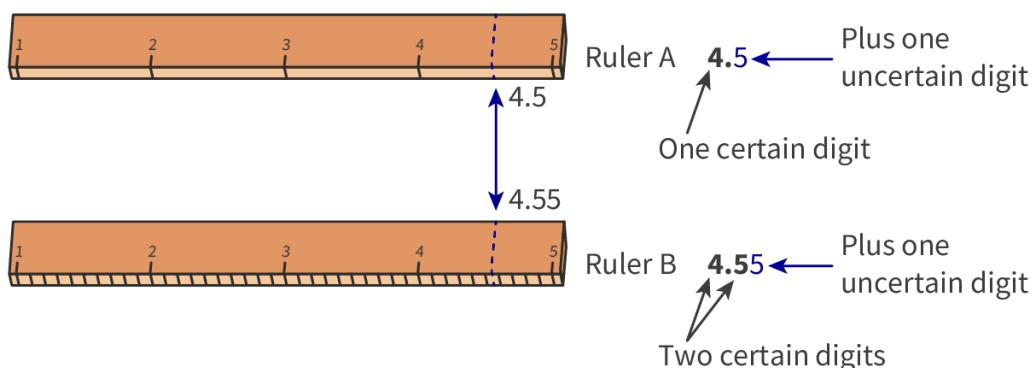

Figure 1. More hatch marks on an instrument allows for greater precision and more significant figures in the measurement.
Consider the rulers in **Figure 1**. One ruler has markings at each cm, while the other contains markings at each mm. The same object can be measured with both rulers with the same accuracy, but with different precision. When there are more hatch marks, the precision increases and so does the number of significant figures, which will then be helpful when performing calculations with measured values. Note, if the hatch marks are very close together, your final, uncertain digit will likely be a 0 (if the object appears to be on the hatch mark itself) or a 5 (if the object appears to be between two hatch marks).
🔗 More information for figure 1
- (/study/app/aa-hl/sid-423-cid-762593/c) In addition to the measurement, you must also record the uncertainty, which is then used to assign a quantity of error to your measurement. Uncertainty is an unavoidable error in the measurement that is due to your ability to correctly estimate the last digit in your measurement. In general, the uncertainty for analogue equipment is one-half of the value between hatch marks. In **Figure 1**, the uncertainty would be 0.5 cm for ruler A and 0.05 cm for ruler B.